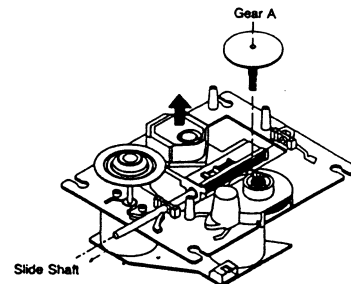

Figure 5
3. Remove the Gear A (Figure 5).